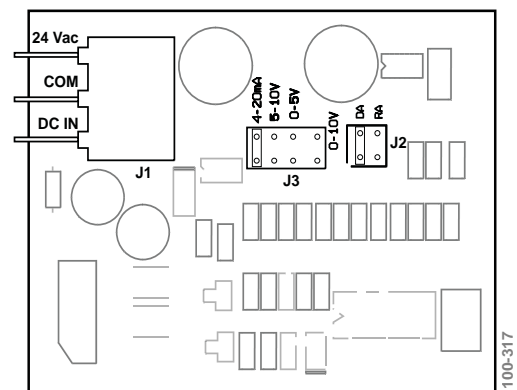
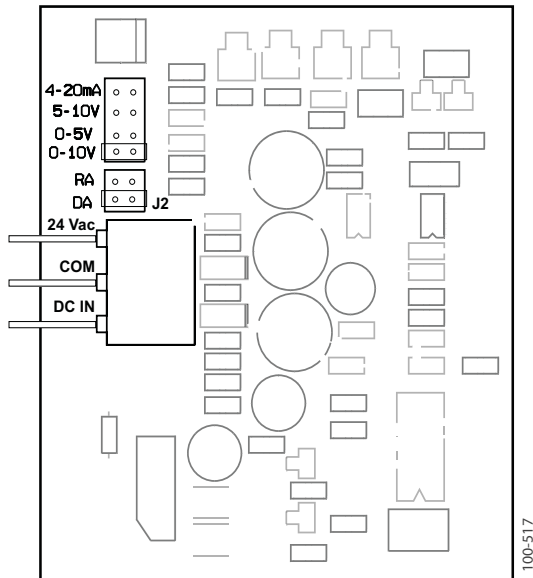

Figure-8 Typical Wiring of 3-Wire Proportional Non-Spring Return Valves
Figure-9 Typical Wiring of 3-Wire Proportional Spring Return Valves
1. Remove the cover from the actuator, then connect the power and control wiring to the terminal block (Figure-8 and Figure-9).
All units are shipped with the actuator in the direct-acting 0 to 10 Vdc mode, which means that the valve opens the B port upon receiving an increasing Vdc signal. To change the action to reverse-acting (valve closes with an increase in control signal), simply remove the action jumper J2 and relocate it to the reverse-acting pins. See Figure-8 and Figure-9.